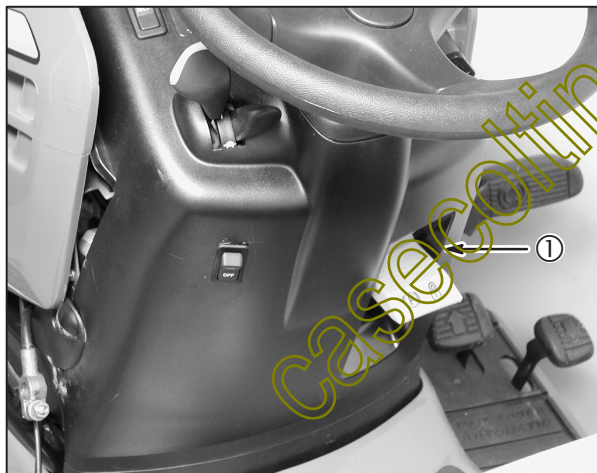

Fig. 33
3. Place another jumper wire on the remaining pin in the solenoid connector and on the other terminal on the battery, Fig. 33.